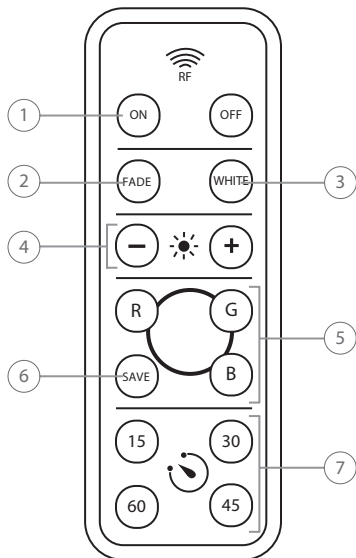

Fig. 1
**NOTE:** Switch to "RF" for remote control functions (See Fig. 1).